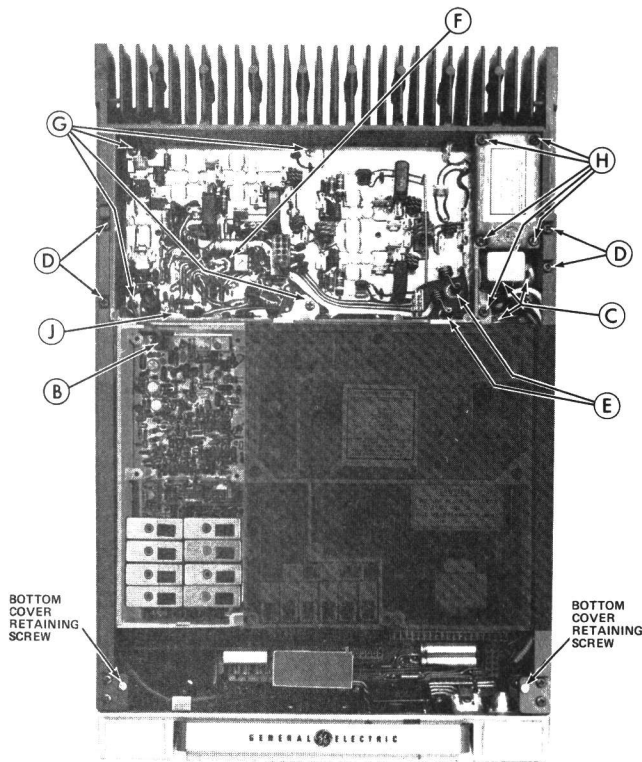

Figure 4 - Disassembly Procedure Top View
2. Remove the top cover, then loosen the two bottom cover retaining screws and remove the bottom cover (see Figure 4).
EXCITER DISASSEMBLY (See Figures 4 and 5)
PA DISASSEMBLY (See Figures 4 and 5)